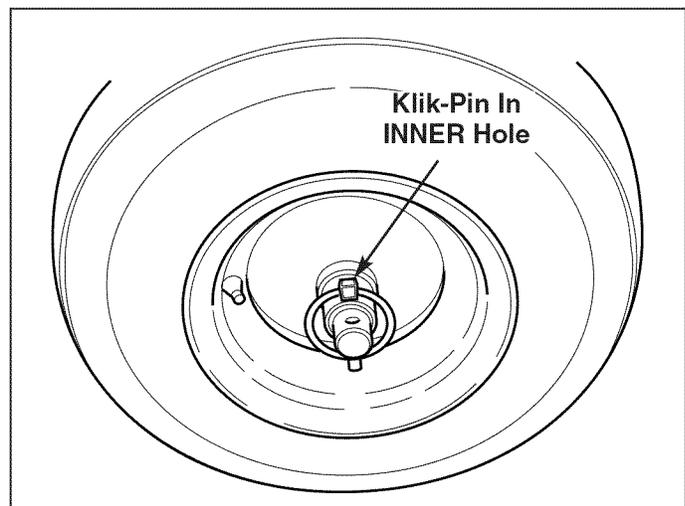

Figure 12. Traction Drive Lock - Engaged
3. To **ENGAGE** the traction drive lock, insert the pin through the hub and axle (See Figure 12). If the hole in the hub is not aligned with the inner hole in the axle, push the snowthrower until the holes align and install the traction lock pin.